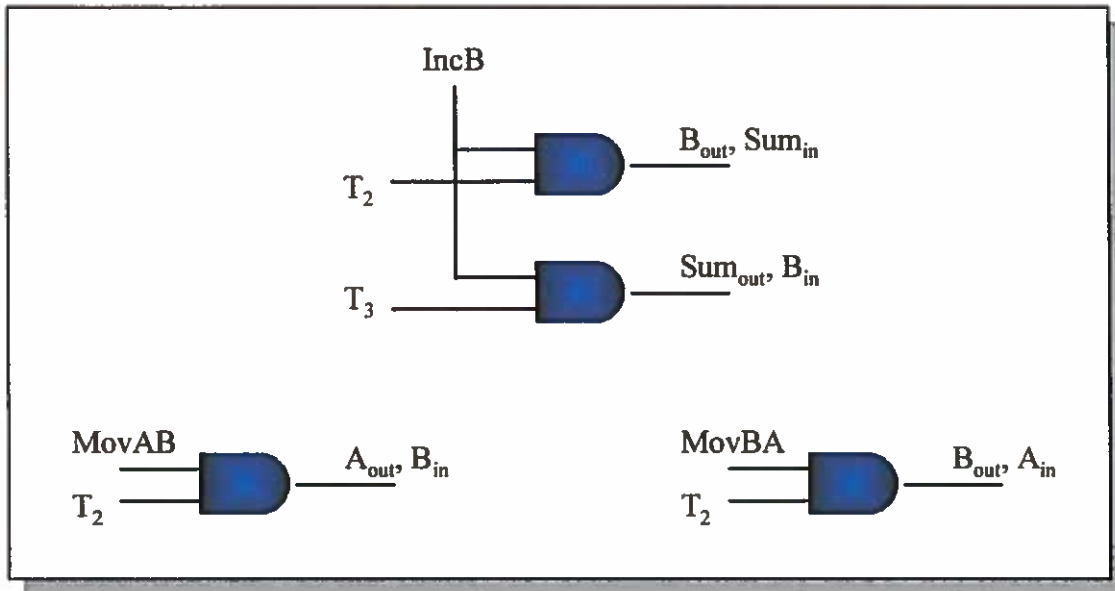
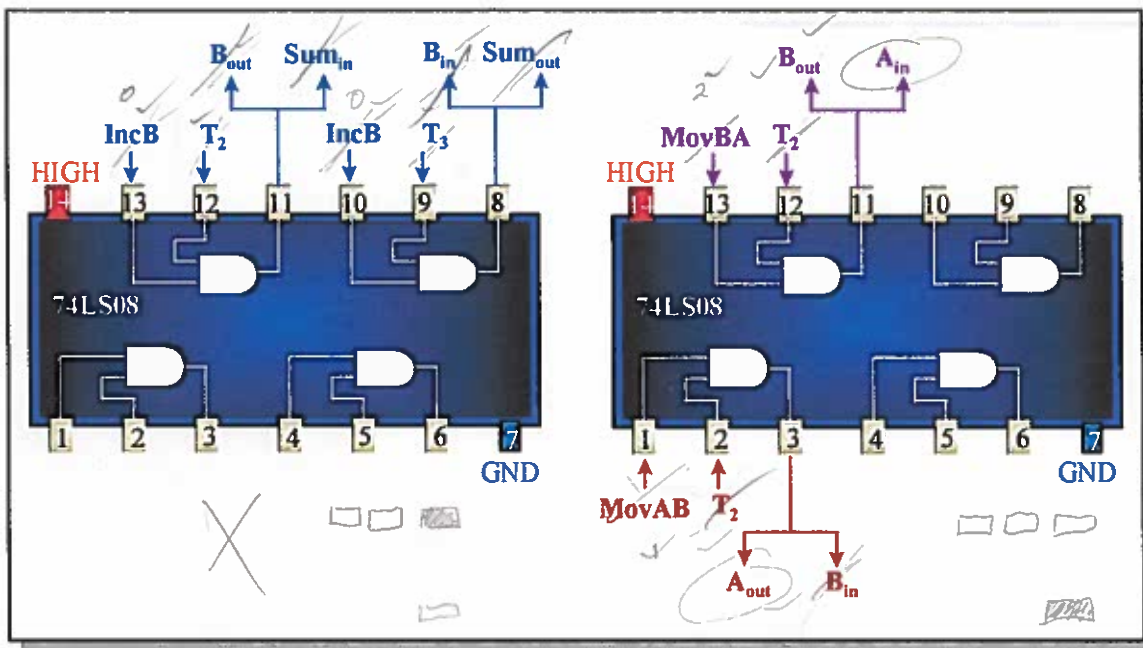
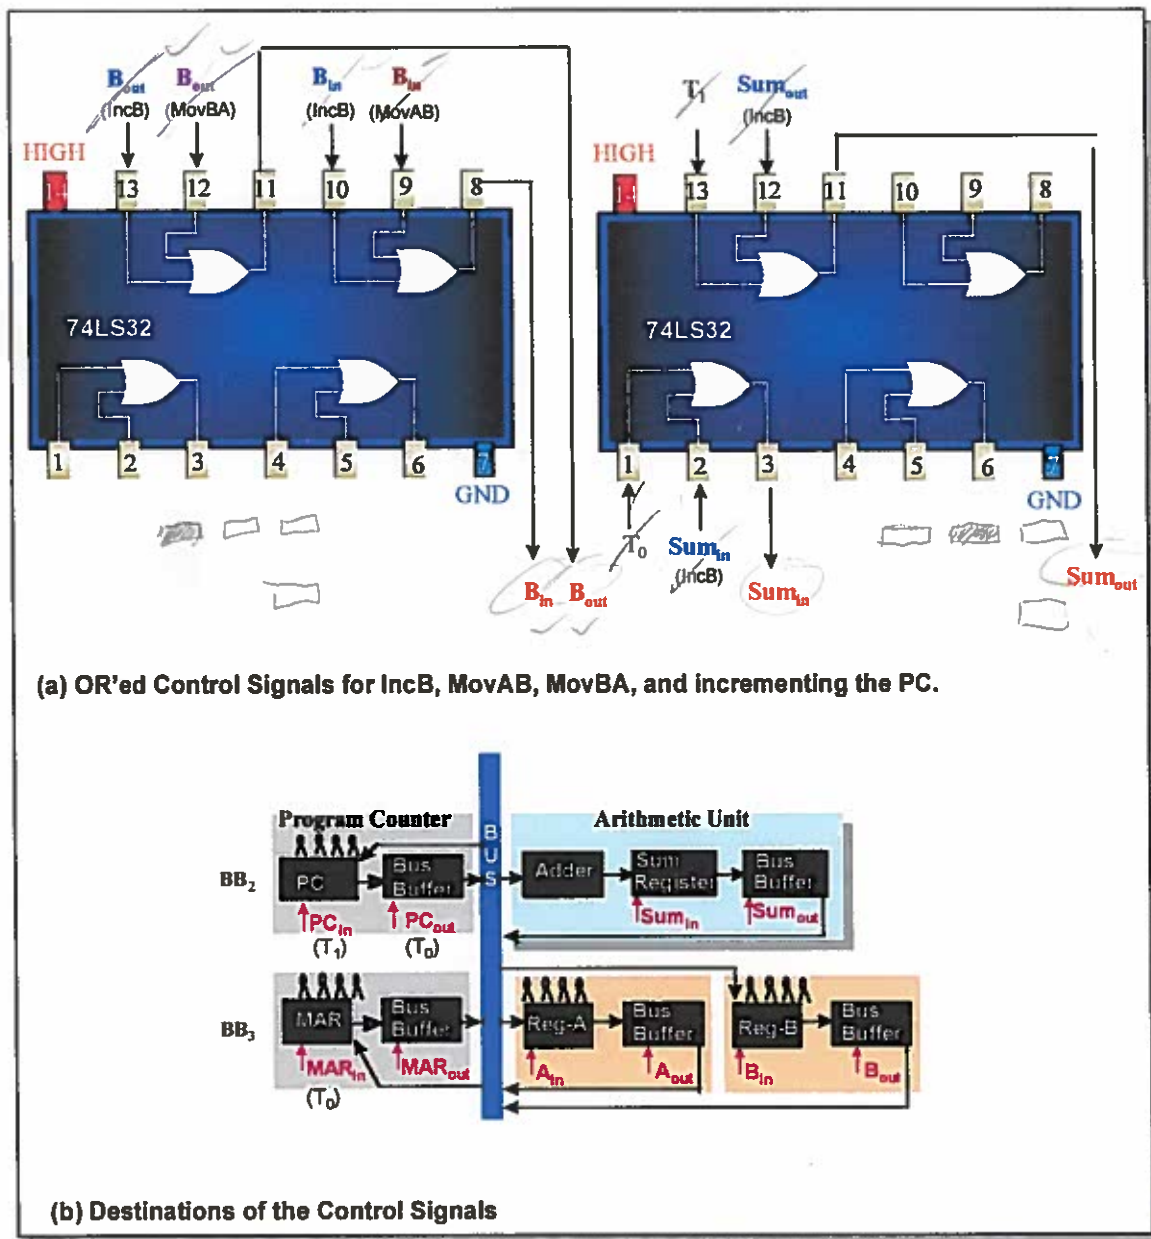

Figure 22. Control Signal Encoding.
Figure 23. AND gate encoding of the control signals.
Figure 24. Control Signals.
Figure 22 shows the logical AND gate encoding of the three instructions symbolically. Figure 23 shows a physical implementation of Figure 22. The following paragraphs explain the control signal encoding for these instructions.
2. The contents of the Sum Register flows through the BUS back into Register B. The control signals are Sum_{out} and B_{in} . These are activated at T_3 when the Instruction Decoder output is IncB. Please see Figure 23 for how these control signals are generated.
MovAB - This instruction is executed in one simple step: data in Register A flows through the BUS into Register B. The control signals are A_{out} and B_{in} and these are activated at T_2 (or a higher time step). Please see Figure 23.
An important point to remember is: although a source signal pin can be connected to multiple destinations (i.e., fan-out), the reverse is not true; the input pin of a chip cannot be directly connected to more than one signal source. Please see in Figure 23 that the control signal B_{out} occurs
twice. You need to feed this signal pair into an OR gate and connect the OR gate output to the B_{out} destination pin (see Figure 24). This way, the destination pin is activated by one or the other active signal. You do the same for the B_{in} signal pair of Figure 23. Likewise, the Sum_{in} destination pin now has two incoming signals: the one in Figure 23 and the T_0 signal used during incrementation of the Program Counter. The same applies to the SUM_{out} signal. As Figure 24 shows, these signal pairs are OR'ed before connecting to the destination pins. (Note: if a destination pin had more than two source signals, then they had to be converged through a cascade of OR gates).